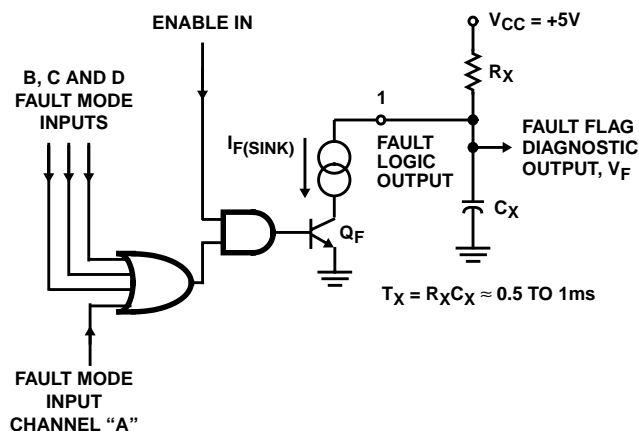

FIGURE 2. EXTERNAL FAULT OUTPUT CIRCUIT AND $I_{F(SINK)}$ AS FAULT SINK PULLDOWN CURRENT, WHICH IS ACTIVATED BY TRANSISTOR, Q_F , WHEN A FAULT EXISTS
- The I_{OL} value of "Output Low Current, $I_{F(SINK)}$ " at the FAULT pin is both the static leakage of the output driver Q_F and the current sink, $I_{F(SINK)}$. The current sink is active only when a fault exists. When no fault exists, the I_{OH} current at the FAULT pin is the maximum leakage current, $I_{F(LK)}$. Refer to Figure 2 for an illustration of the FAULT output and associated external components. Refer to FAULT LOGIC TABLE for Fault Modes.
- The Voltages, V_{HTHD} , V_{LTHD} are the comparator threshold reference values (Min. and Max. Range) sensed as a high and low state transitions for voltage forced at the outputs. V_{HTHD} indicates an open load fault when the output is decreased to less than the threshold. V_{LTHD} indicates a shorted load when the output is increased greater than the threshold. The output voltage is changed until the FAULT pin indicates a Low (Fault). Refer to Figure 2 for test value of external resistor. Refer to I_{OL} and I_{OH} FAULT PARAMETERS Test Limits to determine V_{OL} and V_{OH} at the FAULT pin.
Since a diagnostic flag indicates when an output is shorted, this information can be used as input to a microprocessor or dedicated logic circuit to provide a fast switch-off when a short occurs and, by sequence action, can be used to determine which output is shorted. A fault condition in any output load will cause the FAULT output to switch to a logic "low". Since a fault condition may be detected during switching, use of an appropriate size capacitor to filter the FAULT output is recommended. The recommended FAULT output circuit is shown in Figure 2. This will prevent the FAULT output voltage from reaching a logic level "0" within the maximum switching time.
The FAULT output diagram of Figure 2 shows the circuit component interface for sensing a diagnostic fault condition. As noted, the time constant of $T_X = R_X C_X$ should be greater than the ON-OFF output switching times to avoid false fault readings during switching. For applications requiring fast period repetition rates, the maximum time constant should be significantly less than the period of switching. The shortest practical time constant is preferred to limit the duration of a fault condition.